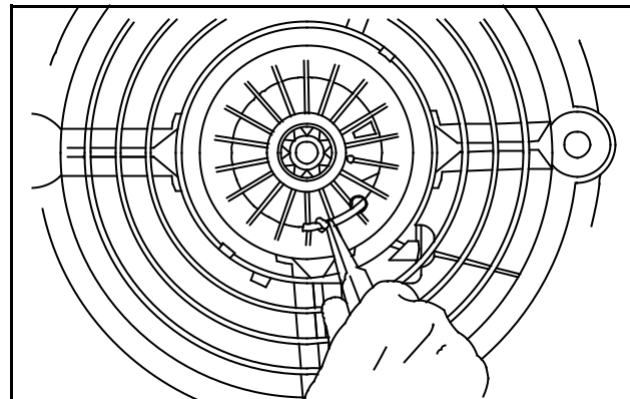

Fig. 2 – Remove Rope
4. Grasp end of rope in knot cavity and remove rope, Fig. 2.